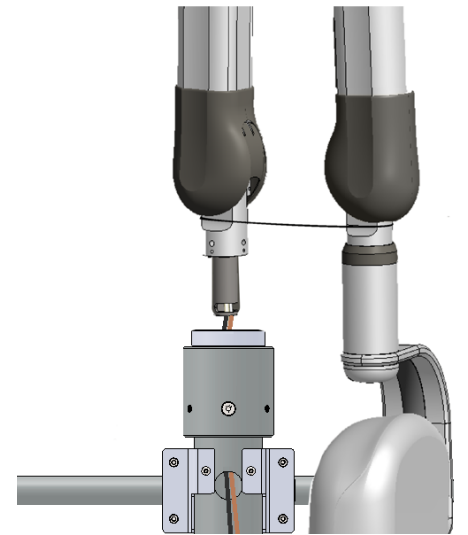

Figure 35
- Lock the scissor arm in folded position by tying with a long cloth & tying a knot or using a long cable tie as shown in Figure 35.
- Hold the scissor arm firmly with both hands and slowly lift it (Figure 35) simultaneously pulling the extra length of cable out of the Base Unit and base column carefully.
- Insert the scissor-arm cables into top hole of the base stand and simultaneously pull out from the front hole of the base stand as shown in Figure 35 (If required use the guide wire).